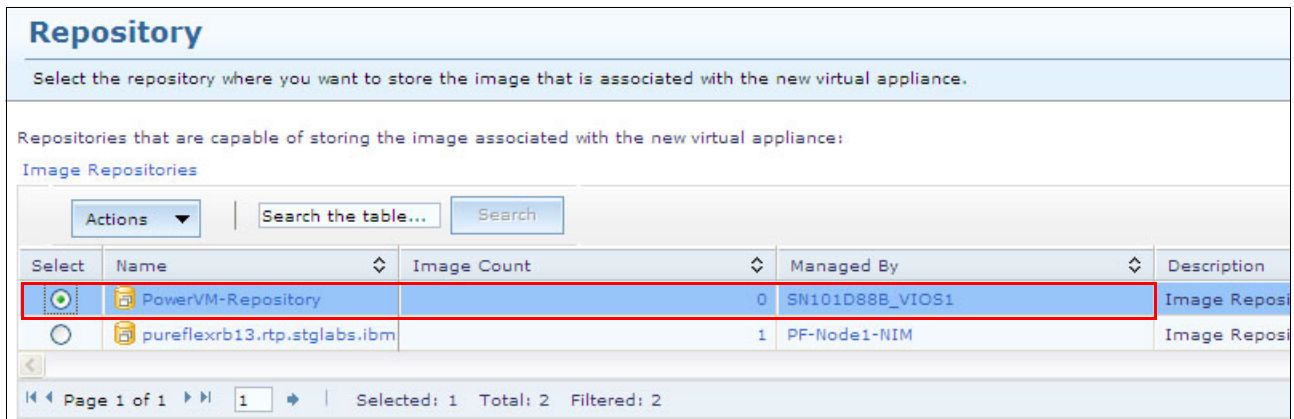

Figure 10-120 Selecting a repository
5. Select a repository as shown in Figure 10-120.